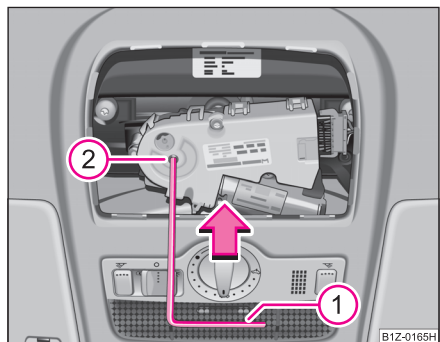

Fig. 33 Detail of the headliner: Emergency operation
- Press the crank handle ① fully into the hexagon hole ② ⇒ fig. 33.